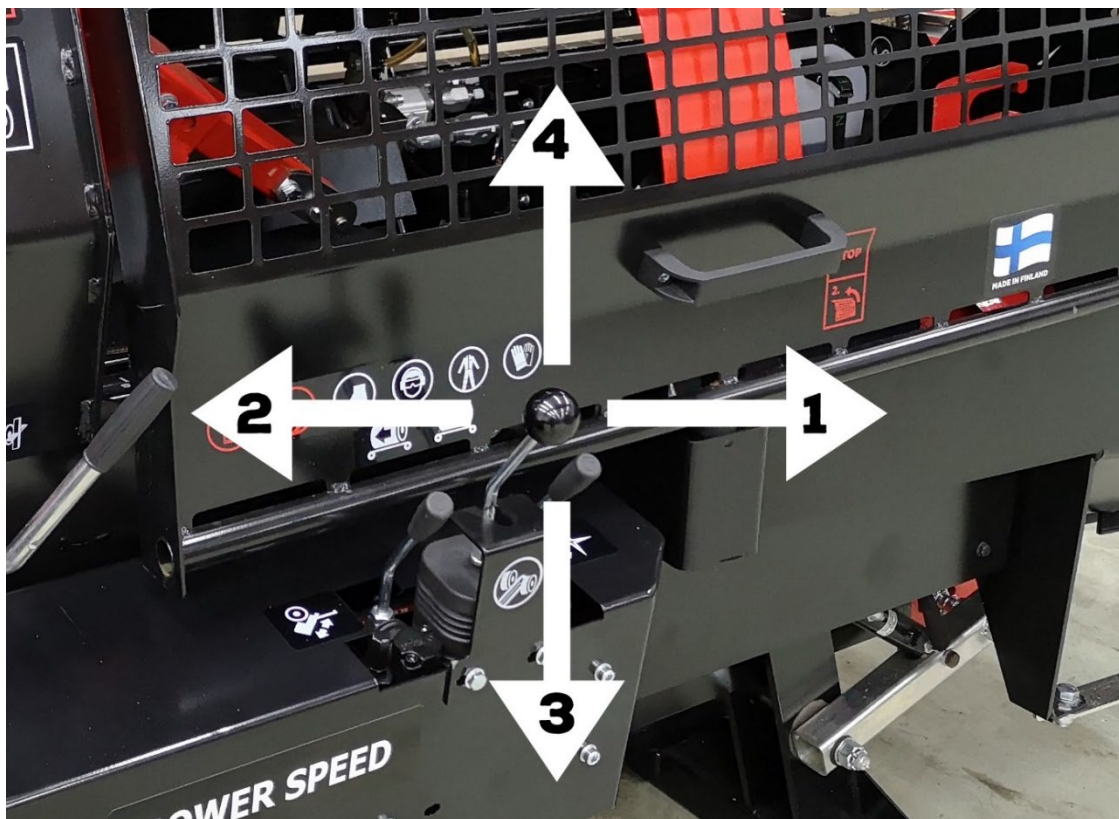

Figure 24
- ❑ The cylinder 8 (fig. 24) swings the multi-purpose shaft 4 (Fig. 24) to the rear, making also the launch trigger 5 swing to the rear.